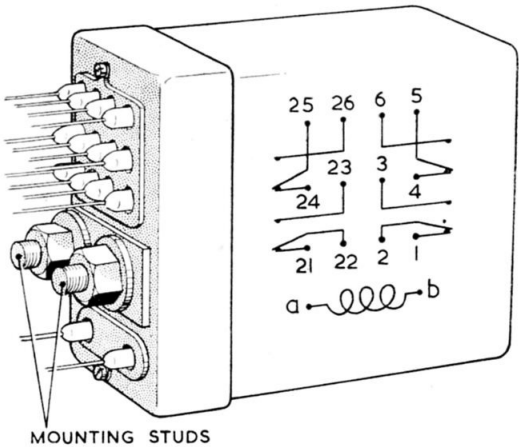

Fig. 1. Magnetic relay switch, Type MI092
1. The magnetic relay switch, Type MI092 (fig. 1), is a sealed, miniature type relay with